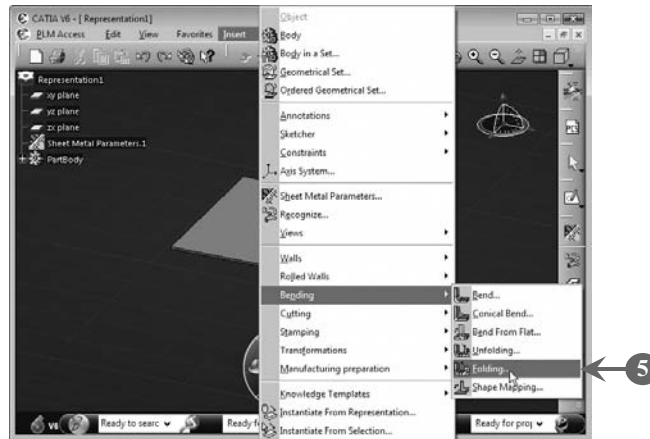

FIGURE 6.67
5. Select **Insert > Bending > Folding** from the menu bar to fold the bend again, as shown in **Figure 6.67**: